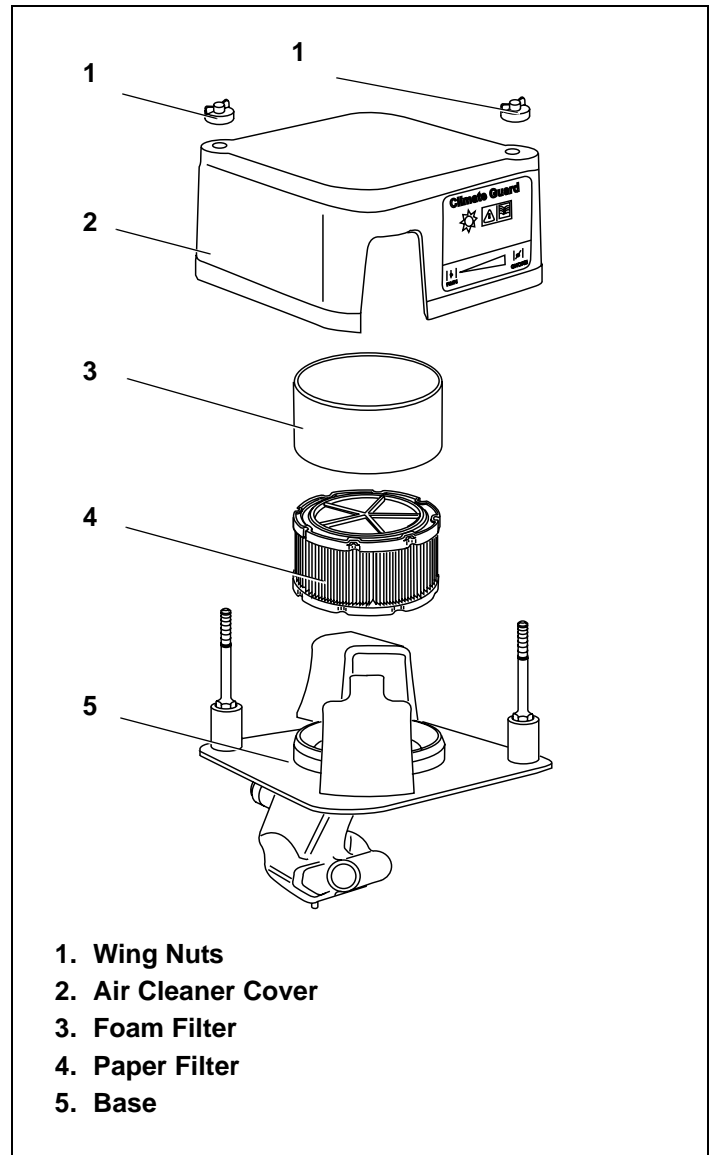

Figure 33. Climate Guard Assembly
1. Remove wing nuts and air cleaner cover. See Figure 33.
1. Remove wing nuts from air cleaner cover. See Figure 33.